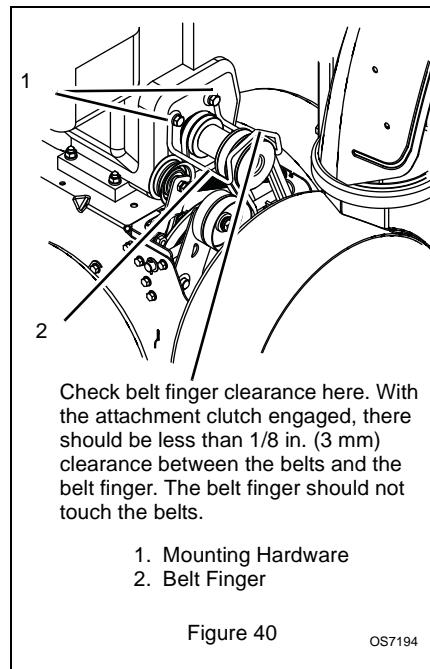

Figure 40
5. Remove belt finger (Figure 40).